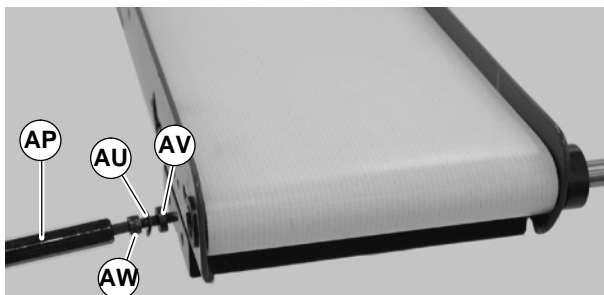

Figure 28
2. Place pulley screw (AW of Figure 28), wave washer (AU) and flat washer (AV) onto small end of hex key wrench extension tool (AP of Figure 28) (25-08).